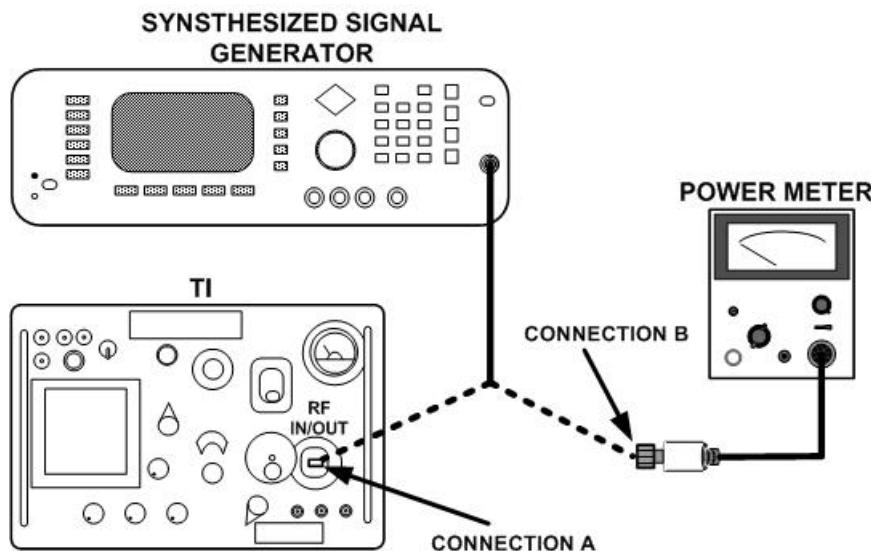

Figure 2. Input - equipment setup.
- (1) Set **TRAN/TEST/RECV** switch to **TRAN** and adjust **SET ZERO COARSE** and **FINE** controls to obtain **SET ZERO** indication on **SET POWER** meter.
- (2) Connect equipment as shown in figure 2, connection A.
- (3) Adjust controls of synthesized signal generator for CW operation at **8.5 GHz** (15.8 GHz) and power level for an on-scale indication on **SET POWER** meter.
(4) Set **DBM** control to **+7 dBm** and adjust synthesized signal generator power output until **SET POWER** meter indicates **SET POWER**.
(5) Connect equipment as shown in figure 2, connection B. Power meter indication will be between **+5.5** and **+8.5 dBm**.
(6) Repeat technique (1) through (5) for highest possible level allowed by synthesized signal generator or cardinal point on TI dBm dial (whichever is possible).
(7) Repeat technique of (1) through (6) above at frequencies of 9.05 and 9.60 GHz (16.35 and 16.9 GHz).